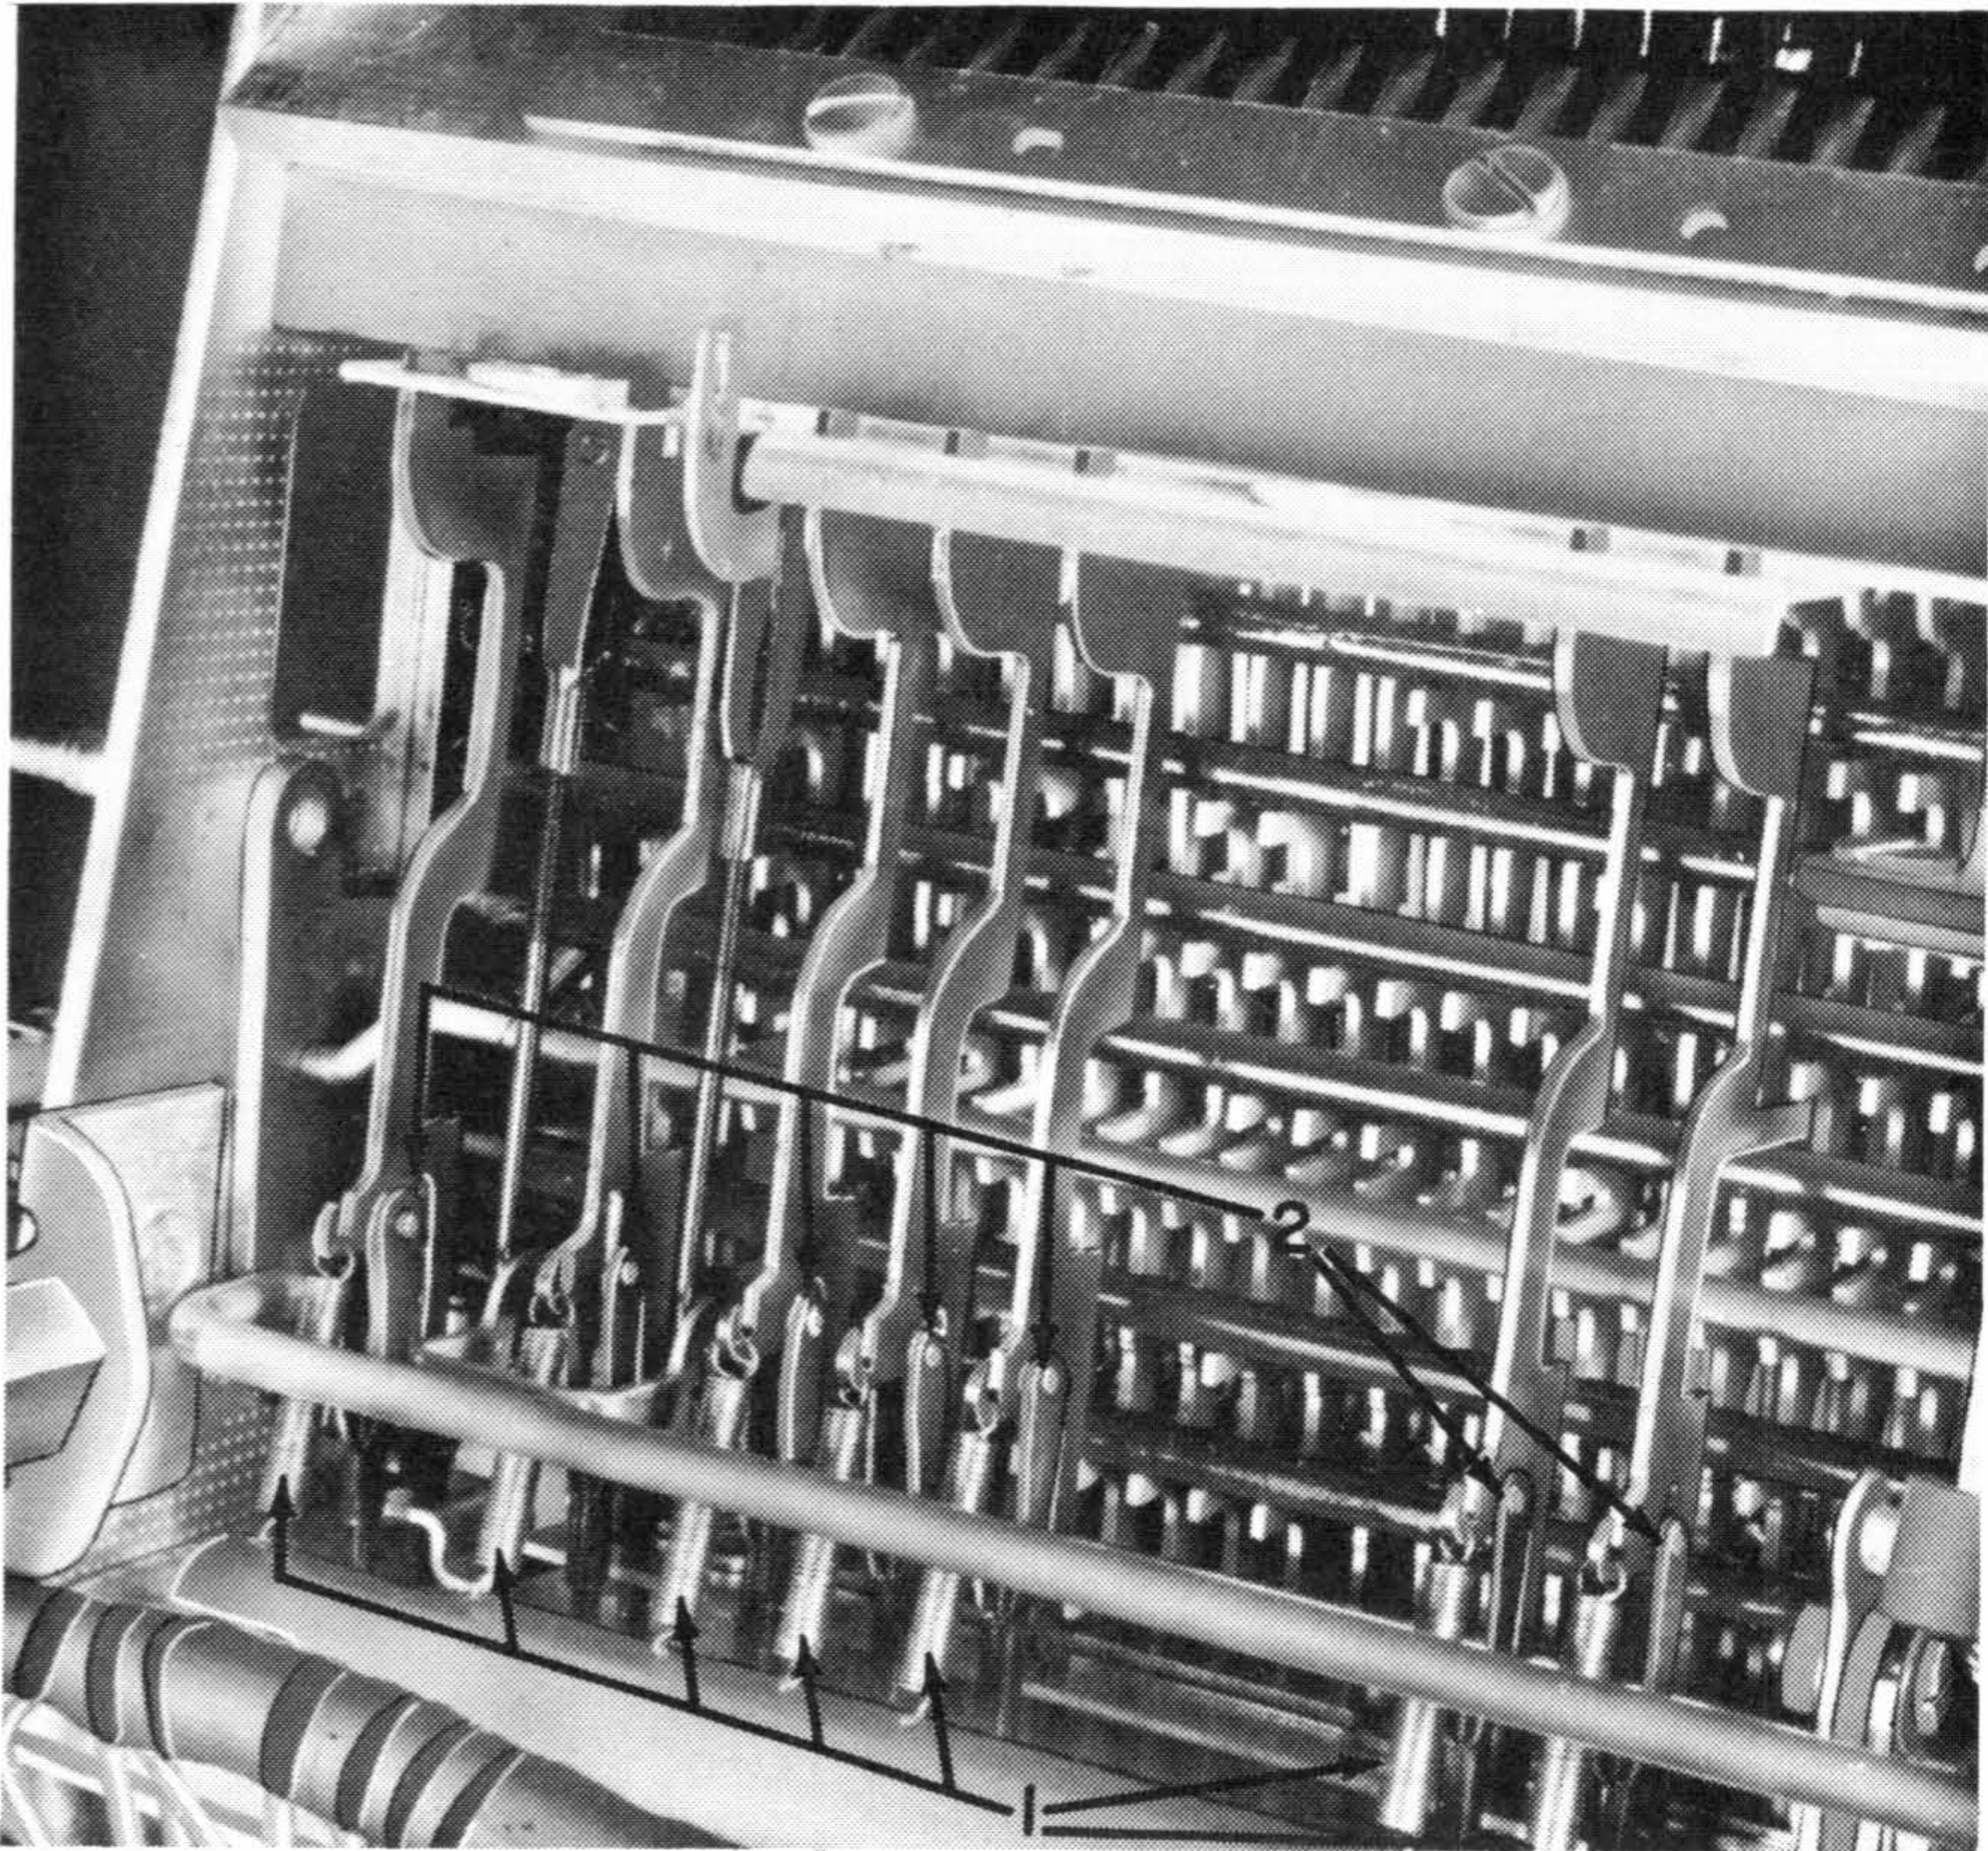

Figure 28. Differential Plate Removal
3. Remove all the springs from the interposers (#1, Figure 28).
4. Disconnect the clevises and remove them from the links (#2, Figure 28).